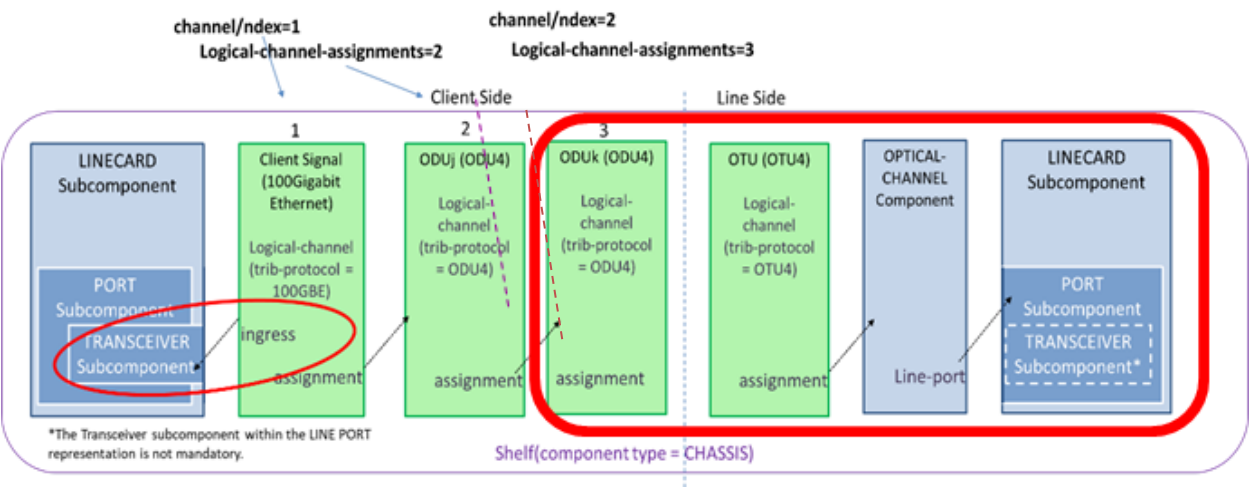

Figure 13: Logical channel created automatically with the operational mode
**Note:** the operational mode will automatically configure all the channel and assignments in the network side. From optical channel to ODU HO. See use case 1a of MS-DIS 2.5 and Figure 13